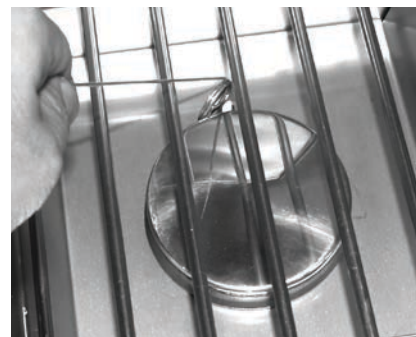

Fig. 27-2 Manual lighting
2. Insert either a burning long-barrel butane lighter, a burning long-stem match, or a burning match held by a wire extension holder through the cooking grid opening to the burner (Fig. 27-2). Hold the flame against the edge of the burner.
4. If the burner does not light within five (5) seconds of turning the control knob, **immediately depress the knob and turn the valve to OFF**. **WAIT FIVE (5) MINUTES** before repeating steps 2 through 4 of the MANUAL LIGHTING instructions.